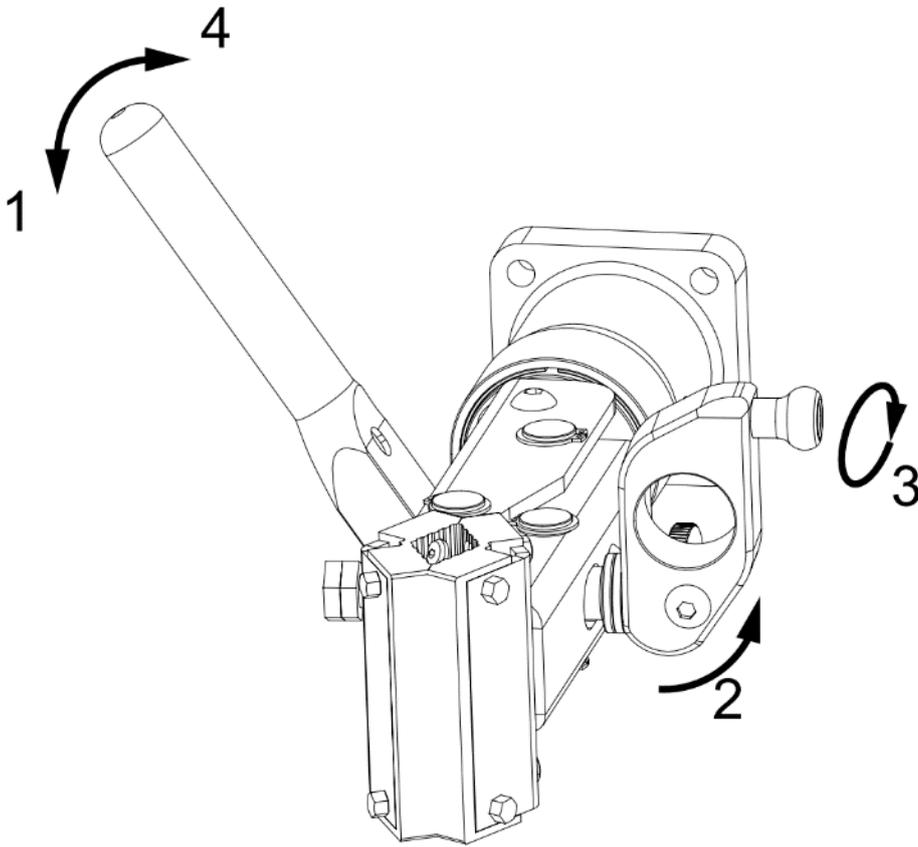

Figure 11: Clamp operation
- ◆ Release the rotation handle (**figure 11**, number 1) so that the clamp can adjust its position to the bike's seat/frame tube angle.
- ◆ Close the clamp by flipping the clamp handle 180° (2) and tighten the clamp by rotating the clamp handle clockwise (3).
- ◆ Close the rotation handle (4). It should be tight enough not to let the bike rotate under its own weight but light enough so you can open and close it with one hand easily. Overtightening may cause damage to the mechanism.